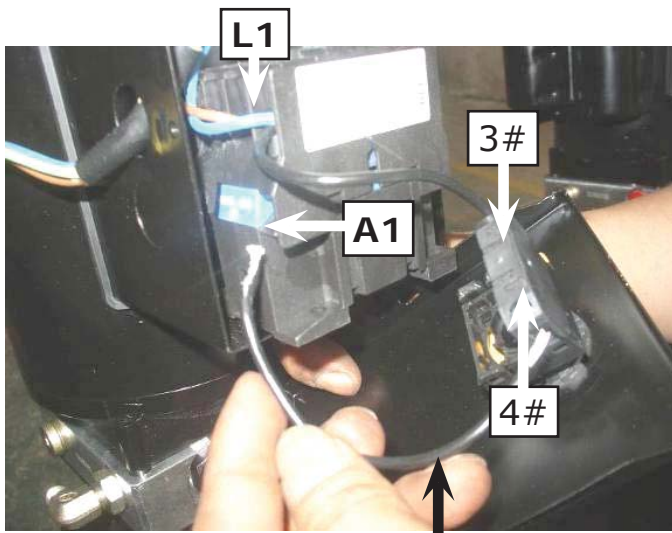
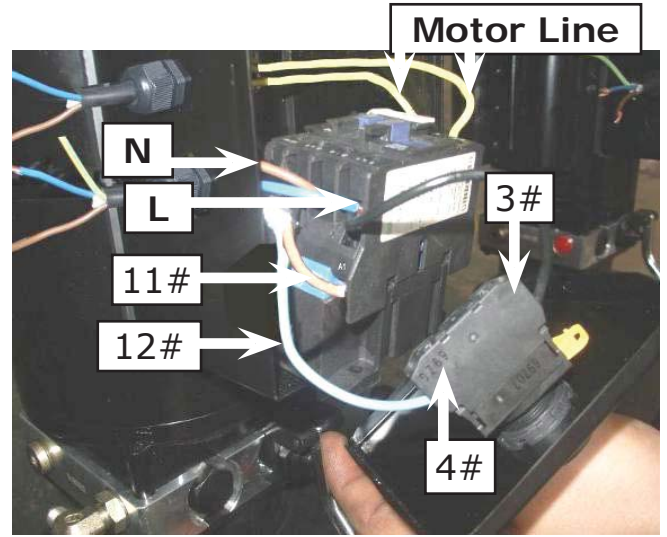

Fig. 35
Fig. 36
4. Connecting the Limit Switch: Remove the line of Connecting Terminal 4# on the up button and **A1** on the AC contactor (**See Fig. 35**). Then connect wire **12#** on the Limit Switch with Terminal 4# on the control button and connect wire **11#** with terminals **A1** on the AC contactor. (**See Fig. 36**)